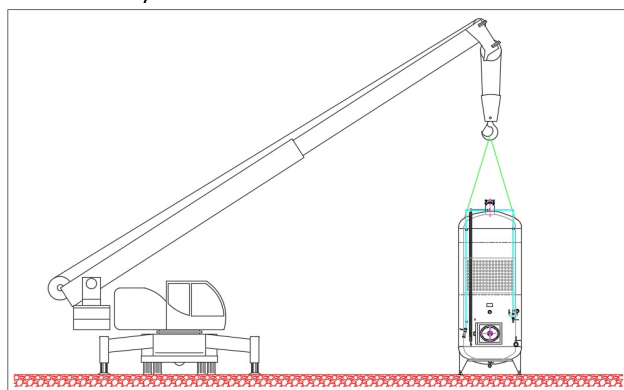

Figure 2: Tank handling.
- E. For lifting, use special ropes or bands adequately resistant to the load to be supported and in excellent condition. Place the ropes or straps in the lifting eyebolts on the top of the tanks. To avoid load imbalances, always position them symmetrically as follows, respecting the angle of pull which must NOT be less than 45 ° (Fig. 2):